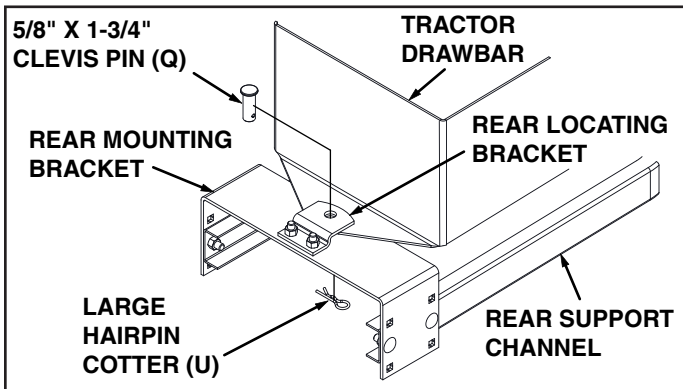

FIGURE 10
STEP 10: (SEE FIGURE 10)
- Slide the Rear Support Channels under the rear of the tractor. Attach the Rear Mounting Bracket to the Tractor Drawbar using the 5/8" x 1-3/4" Clevis Pin (Q) and a large Hairpin Cotter (U).